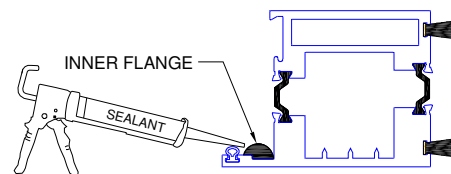

Figure 17:
2. Before glazing, apply a 1/4"×1/4"×6" bead of compatible sealant from each corner on inner flange of panel (Figure 17).
1. Apply a continuous 1/4"×1/4" bead of sealant before glazing. (Figure 17).